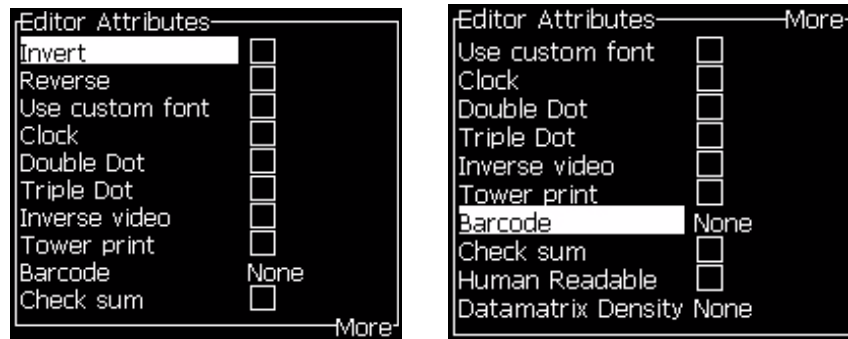

Figure 5-13: Editor Attributes Menu
- 1 Select *In-line Attributes* from the *Editor* menu (press *ALT + E*). The *Editor Attributes* menu appears (see Figure 5-13 on page 5-23).